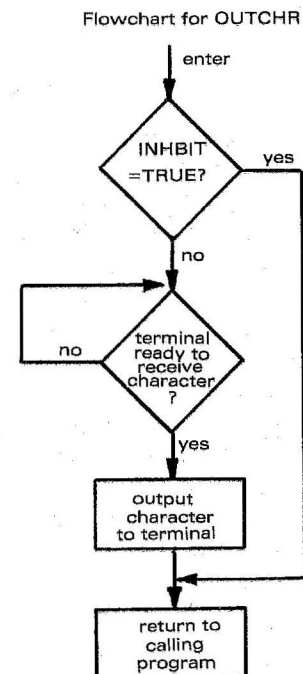

Figure 4
3. OUTCHR - The output character routine (See Figure 4.)